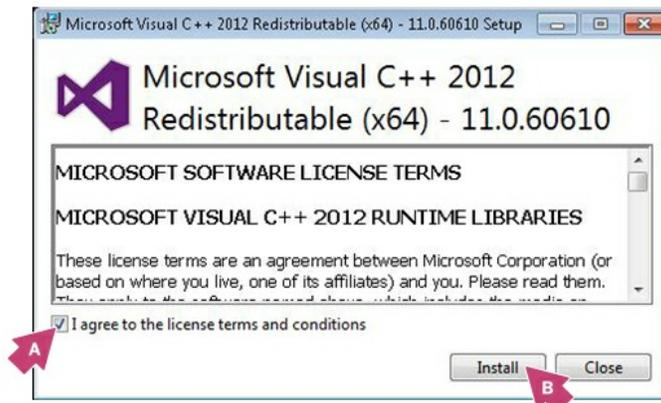

FIGURE 19
19. The following screen may or may not appear. If it does, you will need to accept the software license terms for the installation to continue. If you agree with the terms select **I agree to the license terms and conditions** and click **Install**. If it does not appear, continue to step #21. See Figure 19.